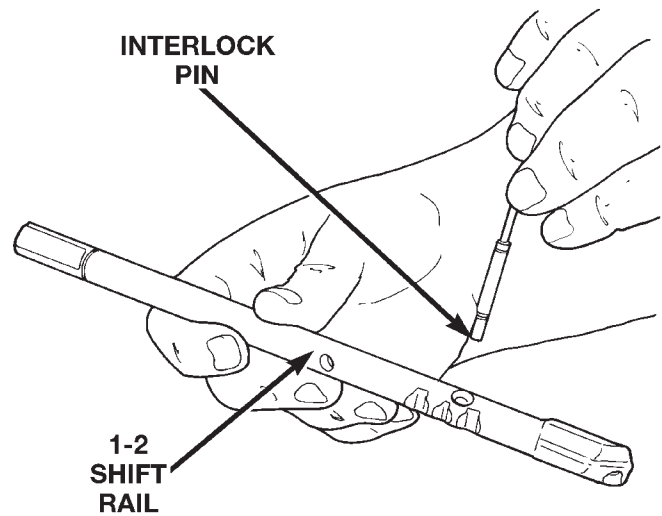

Fig. 77 Install 1-2 Shift Rail Interlock Pin
(3) Install the interlock pin into the 1-2 shift rail (Fig. 77).
(4) Install the 1-2 shift rail into the intermediate plate.